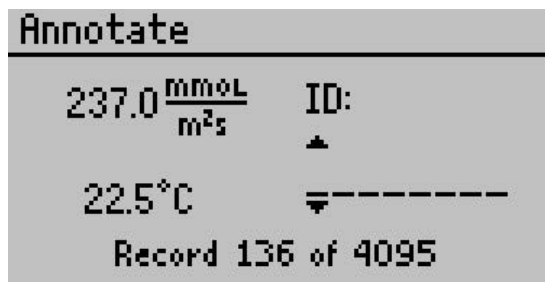

Figure 15 Annotate screen
- c. **Annotate** will bring up the Annotate screen to give the data a file name (Figure 15).